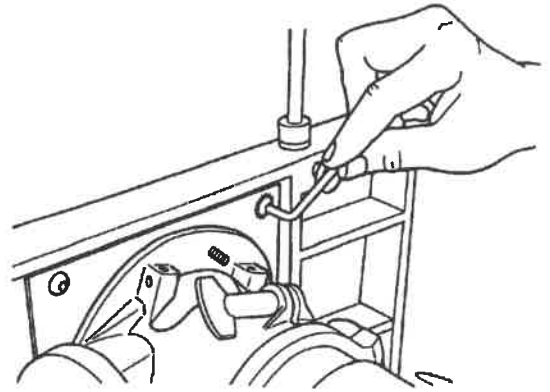
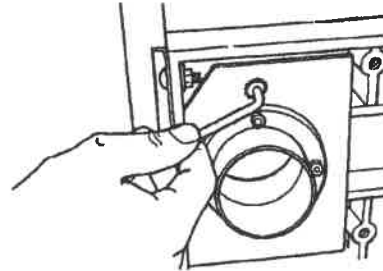

Fig. A-25
Fig. A-26
37. Use a 5/32" Allen wrench to securely tighten all button head cap screws (10) on both the dust collection plate and the router mounting plate. **Do not over-tighten.** Fig. A-25 shows tightening the router mounting plate and Fig. A-26 shows tightening the dust collection plate.